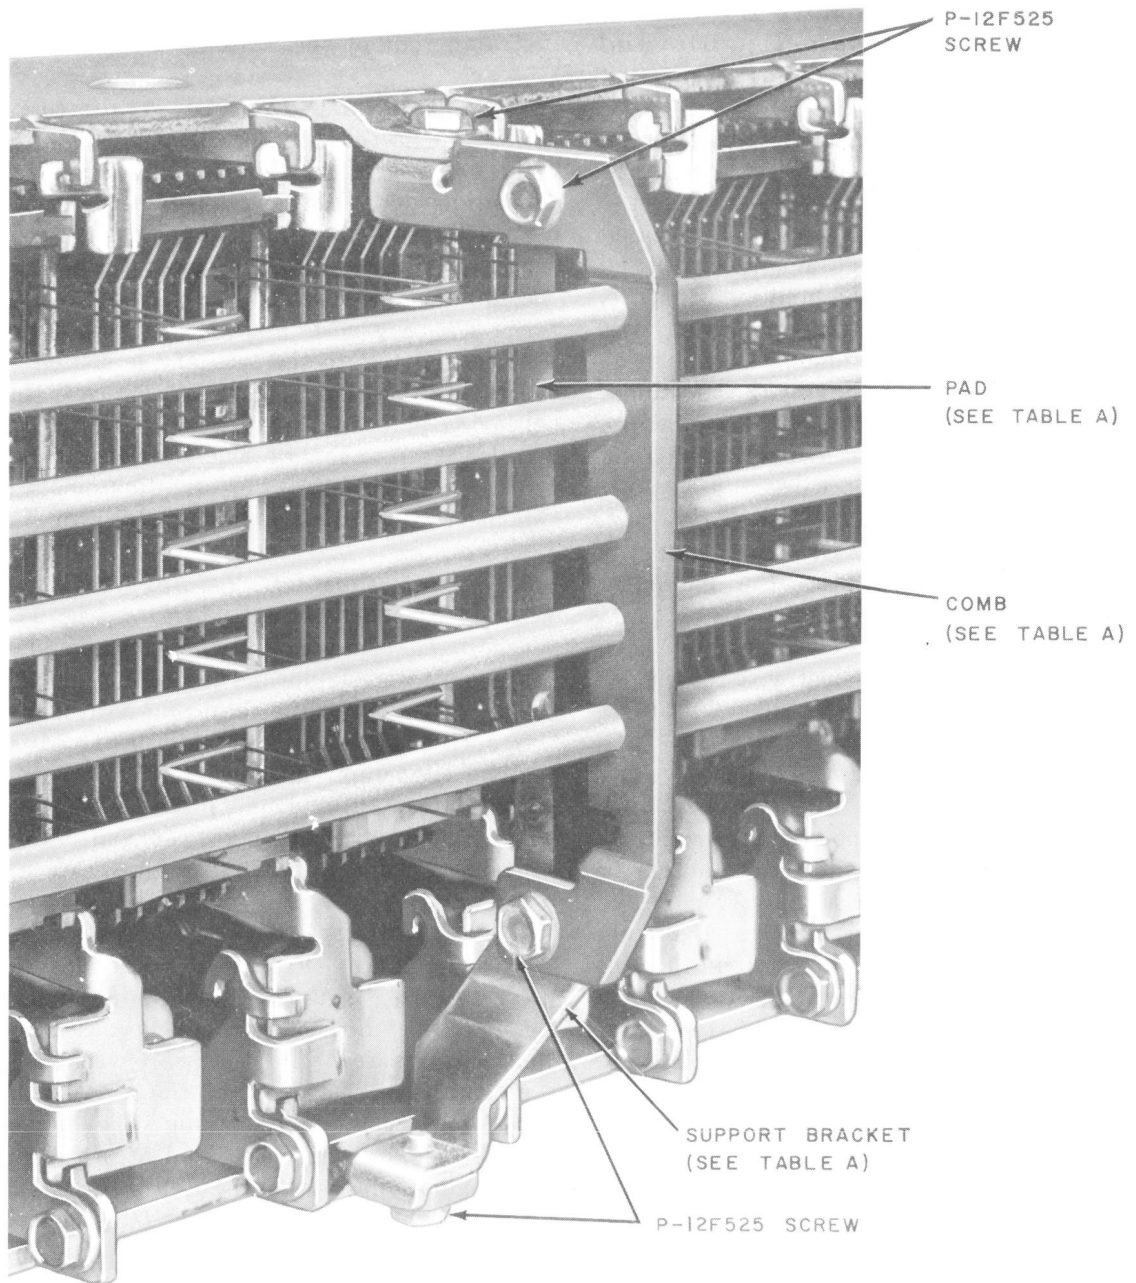

Fig. 2—Partial Front View of Switch Showing Comb and Support Bracket
(1) Remove the center support bracket comb mounting screws (Fig. 2) using the 541A wrench. Remove the comb and pad.
(2) Loosen the pivot screw locknut at both ends of the selecting bar with the 541B wrench. Then using the 474A wrench, turn